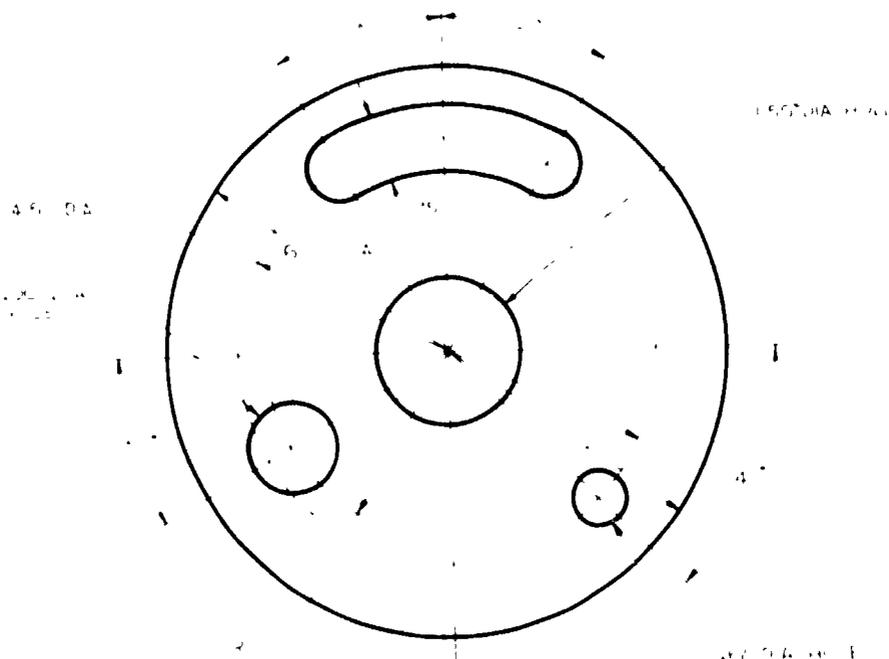

Figure 1.13
1. Make a full scale pencil instrument drawing of the plate in Fig. 1.13. Draw on a 9" x 12" sheet of vellum with a 1/4" border and use title block as shown in Fig. 3.14. Make a diazo print of the finished drawing.